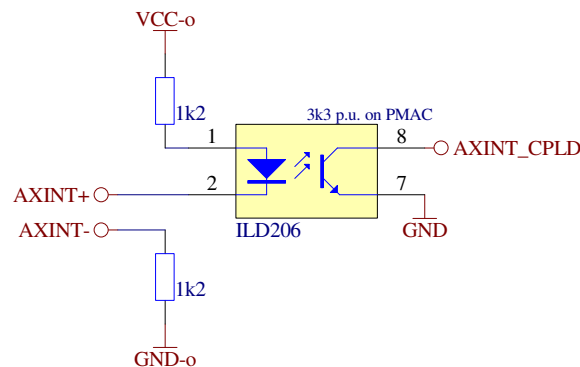

Figure 8: AXINT input (also valid for FAULT input)
applied (to stop the movements also by other means). See Figure 8 for explanation. For the septum project this input is not used.
- AXINT+/-: this input signal provides axis interlock input capability. It is controlled by applying close or open contact on its input. Because it is routed to CPLD, its polarity and/or functionality are fully programmable (for a septum project any AXINT causes amplifier fault on PMAC's axes 1-4, which prevents any movement). To prevent ground-floating issues this inputs should be controlled by a floating closed / opened switch (taken care on the mEB interface board). See Figure 8 for explanation.